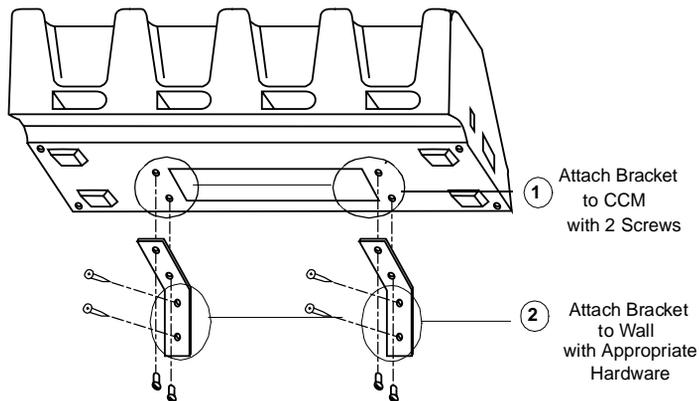

Figure 2-5. Wall Mounting the 3860 CCM
1. Attach the wall-mounting brackets to the bottom of the CCM using the four cross-head machine screws provided, as shown in Figure 2-5:
3. Insert the appropriate wall-mounting hardware into the bracket holes as shown in Figure 2-5 and secure.